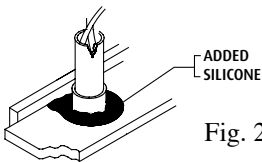
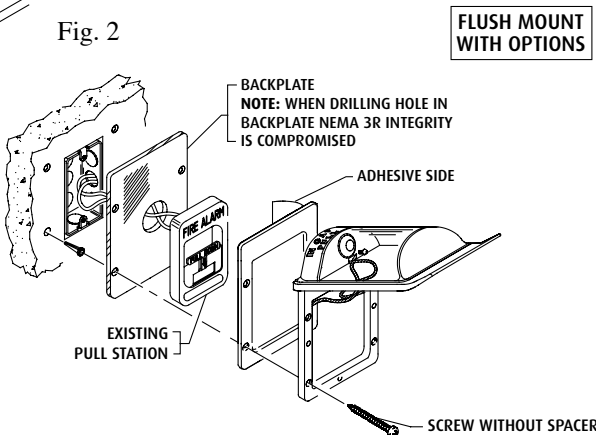

Fig. 2
Fig. 3
3. If using STI-1280 backplate, refer to Fig. 3 and 4 for install instructions depending on your application. **NOTE:** When drilling hole in backplate NEMA 3R integrity is compromised.
4. Align frame and put screws through frame holes, into anchors and tighten (if used, through spacer, gaskets and optional backplate). For STI-1200, continue to Step 8. **NOTE:** When using STI-3100 spacer, be sure to install conduit knockout (2 provided), any additional ventilation (sub-315 grill and sub-316 louver kit), and gaskets before you tighten to the wall. When using conduit gasket (use STI-3003 with 1/2" conduit and STI-3100 spacer or use STI-3004 with 3/4" rigid conduit and STI-3104 spacer) place gasket around conduit in proper location and tighten frame over spacer. For added protection a bead of silicone may be applied to conduit fitting and between STI-1280 backplate and wall (Fig. 2). Refer to exploded view of flush and surface mount installation options Fig. 3 and 4.
Use of gaskets is necessary to ensure a proper seal in weatherproof applications. Weather Stopper models ship complete with all necessary gaskets and should be used accordingly. For flush mount weather applications, one STI-3002 must be used between the cover and wall or backplate (see Fig. 3). In surface mount applications, one STI-3002 must be placed between the spacer and wall, while another STI-3002 must be placed between the spacer and cover (see Fig. 4). An STI-3003 or STI-3004 gasket must be used around all entering conduit. For surface mount applications, it is also recommended that the SUB-315 grill be installed in the bottom knockout of the conduit spacer. This helps prevent excessive condensation buildup. STI recommends gasket replacement every five years. (UL requires listing of pull station to be UL Listed for outdoor installations.)